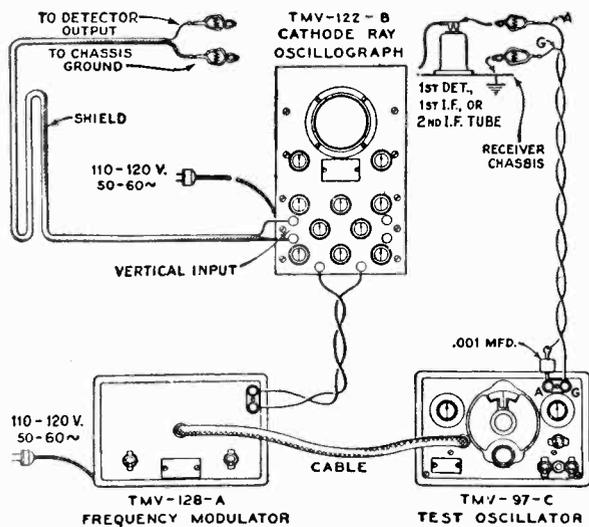

Figure 5—Alignment Apparatus Connections
The four trimmers of the two *i-f* transformers are located as shown by Figure 6. Each must be aligned to a basic frequency of 460 kc. The last transformer must be aligned firstly and the first transformer aligned secondly. For such a process, it is necessary to feed the output of the Full Range Oscillator to the stages in their order of alignment, adjusting the trimmers of each transformer and observing the effect at the second detector output on the Cathode-Ray Oscillograph. The proper point of connection of the Oscillograph is with its vertical "high" input terminal attached to the juncture of R-7 and R-8, as illustrated in Figure 6, and with the "0" or ground terminal to the chassis. The "Ext. Sync." terminals of the Oscillograph should be connected to the Frequency Modulator as shown by Figure 5. A .001 mfd. capacitor installed in series with the Oscillator "Ant." lead will prevent the voltages of the stage under alignment from becoming upset. The vertical "A" amplifier should be "On" for the ensuing adjustments and its gain control kept at maximum. For each adjustment, the Oscillator output must be regulated so that the image obtained on the Oscillograph screen will be of the minimum size convenient for accurate observation. Proceed further as follows:—
- (b) Attach the output of the test Oscillator between the control grid cap of the RCA-6K7 *i-f* tube and chassis ground as shown typically by Figure 5. Tune the Oscillator to 460 kc. and set its modulation switch to "On." Regulate its output until the signal produces a wave pattern on the Oscillograph screen, adjusting the Oscillograph controls to give a shape which is convenient for peak indications. Cause the image to stand still on the screen by manipulation of the frequency and synchronizing controls. Then carefully tune the two trimmers C-20 and C-21 of the second *i-f* transformer to produce maximum amplitude (vertical deflection) of the oscillographic image. Under this condition the transformer will be sharply resonated to 460 kc.
- (c) The Frequency Modulator should then be placed in operation and interconnected with the Full Range Oscillator by means of the special shielded patch cord. Figure 5 shows the proper arrangement. Set the Frequency Modulator sweep range switch to its "Lo" position and turn the Oscillator modulation switch to "Off." Change the timing control of the Oscillograph to "Ext." and place the range switch to its No. 2 position. Then carefully shift the tuning of the Oscillator so as to increase its frequency, until two distinct and similar waves appear on the Oscillograph screen and become exactly coincident at their highest points. This condition will be found to occur at an Oscillator setting of approximately 540 kc. The curves will be identical in shape but appearing in reversed positions. Adjust the frequency control of the Oscillograph in order to cause the waves to conform with the above requirement and to make them remain motionless on the screen. This will require a setting of approximately 1/2 clockwise rotation of the frequency control. The trimmers C-20 and C-21 should then be re-adjusted so that the two curves move together and become exactly coincident throughout their lengths, maintaining the maximum amplitude at which this condition can be brought about.